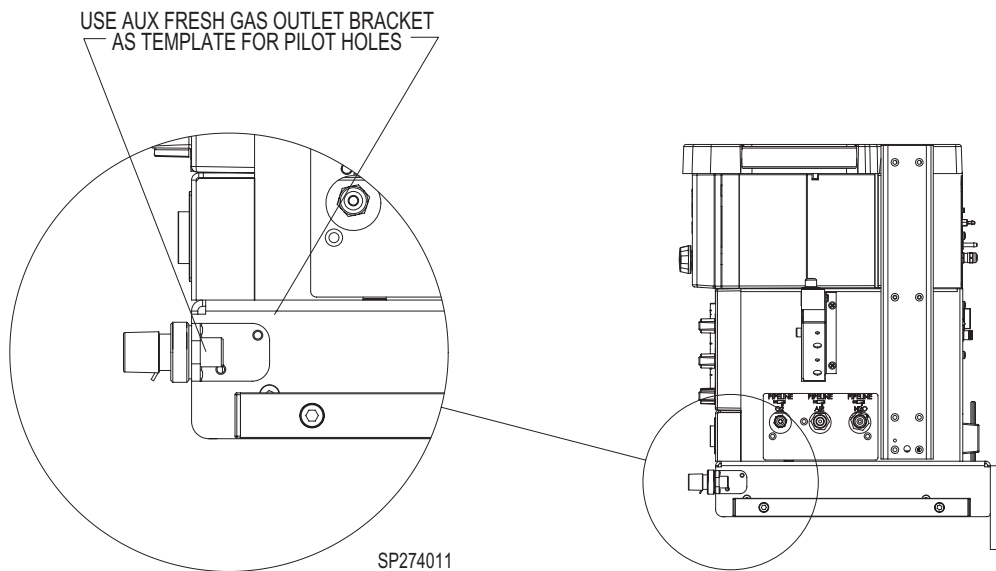

FIGURE 9. Right Side Wall Mount Drilling Location
- 4.2.1.2 Verify the existence of mounting holes in the location shown in FIGURE 9. If mounting holes are present, proceed to step 4.2.1.4. If mounting holes are not present, proceed to following step.
- 4.2.1.3 Using a 13/64 (5.15 mm) drill bit, drill pilot holes in location shown in FIGURE 9. by using the Auxiliary Fresh Gas bracket as a template.